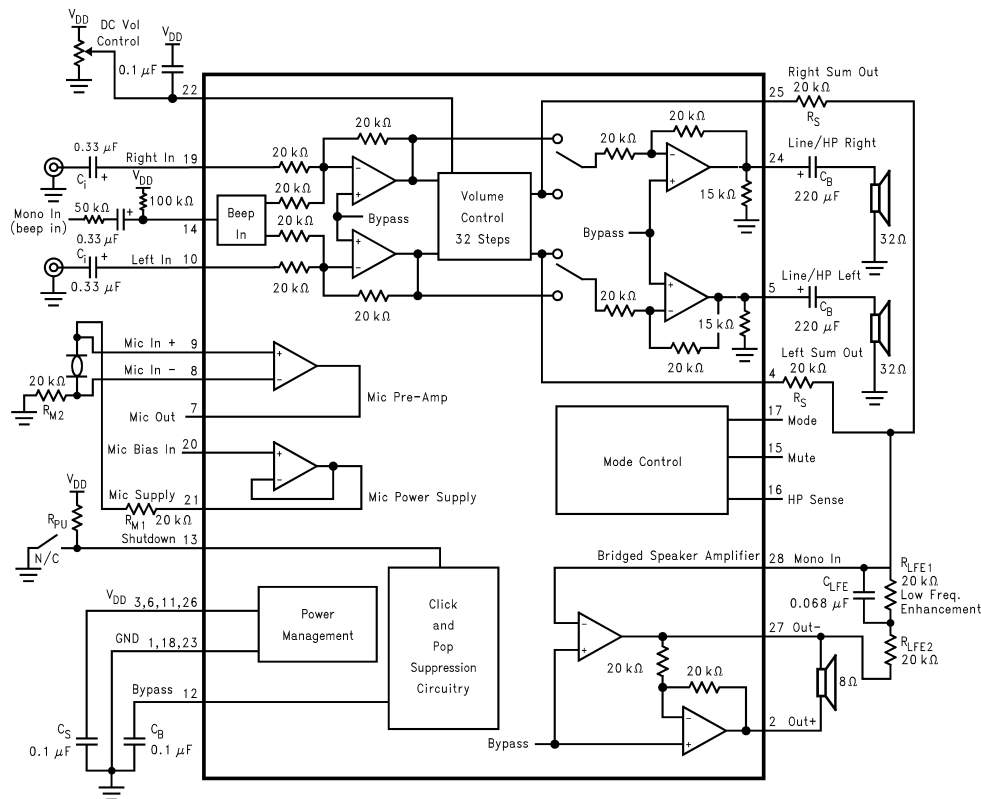

Figure 2. Typical Application Circuit
- (1) All voltages are measured with respect to the ground pins, unless otherwise specified. All specifications are tested using the typical application as shown in Figure 2.
- (2) *Absolute Maximum Ratings* indicate limits beyond which damage to the device may occur. *Operating Ratings* indicate conditions for which the device is functional, but do not ensure specific performance limits. *Electrical Characteristics* state DC and AC electrical specifications under particular test conditions which ensure specific performance limits. This assumes that the device is within the Operating Ratings. Specifications are not specified for parameters where no limit is given, however, the typical value is a good indication of device performance.
- (3) Typicals are measured at $25^\circ C$ and represent the parametric norm.
- (4) Limits are guaranteed to National's AOQL (Average Outgoing Quality Level).